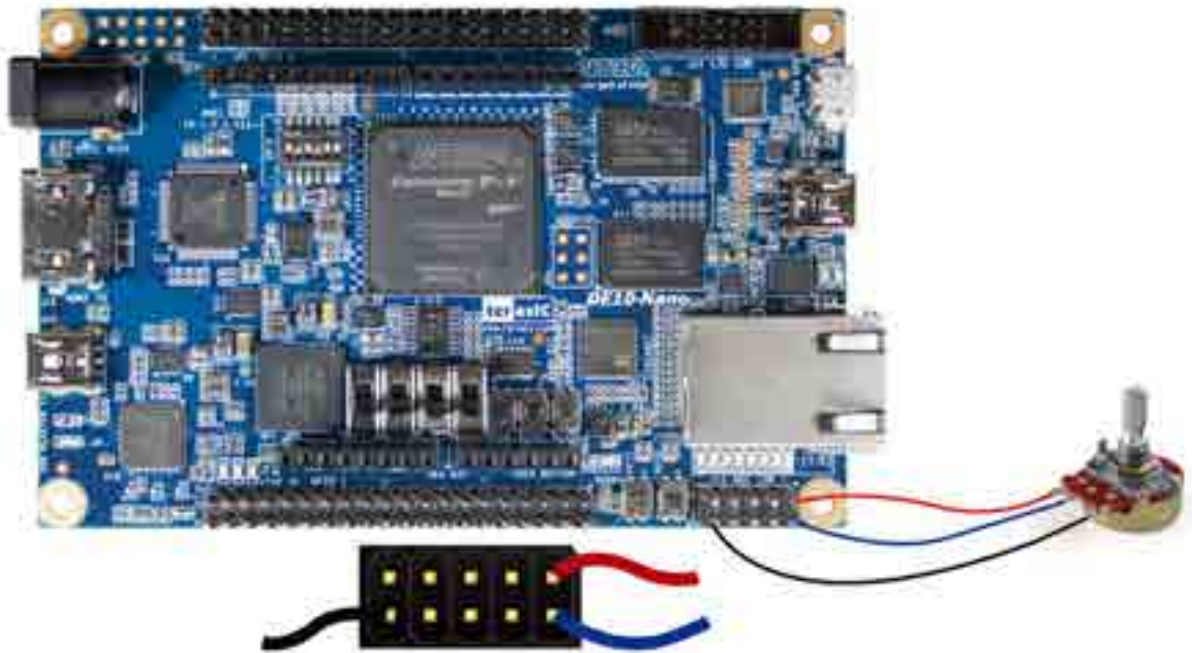

Figure 5-4 Hardware setup for the ADC reading demonstration
- Connect the trimmer to corresponding ADC channel on the 2x5 header, as shown in **Figure 5-4**, as well as the +5V and GND signals. The setup shown above is connected to ADC channel 0.